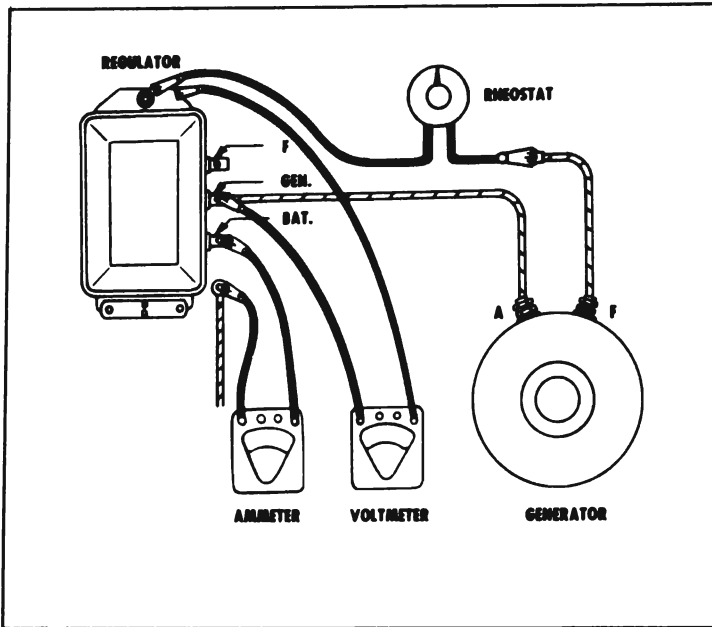

Figure 10-15—Testing Cutout Relay
4. Turn voltmeter selector switch to position for 12 volt system. Then connect voltmeter red lead to "Gen" terminal of regulator and voltmeter black lead to ground on base plate of regulator. See Figure 10-15.